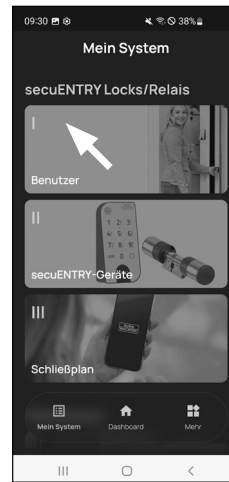

Fig. 2
- 2 Tap on the menu item "I - User" (Fig. 2).
- 3 A list of the users that have already been created is displayed. Tap the user for which you want to set up the radio key (Fig. 2).